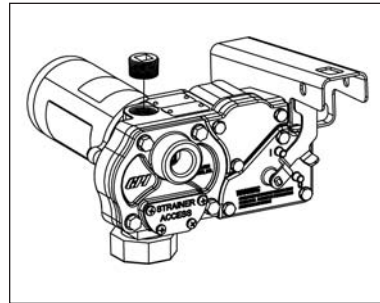

Figure 8
- Using a drive ratchet or extension, remove the pipe plug from the top outlet port. (Figure 8)